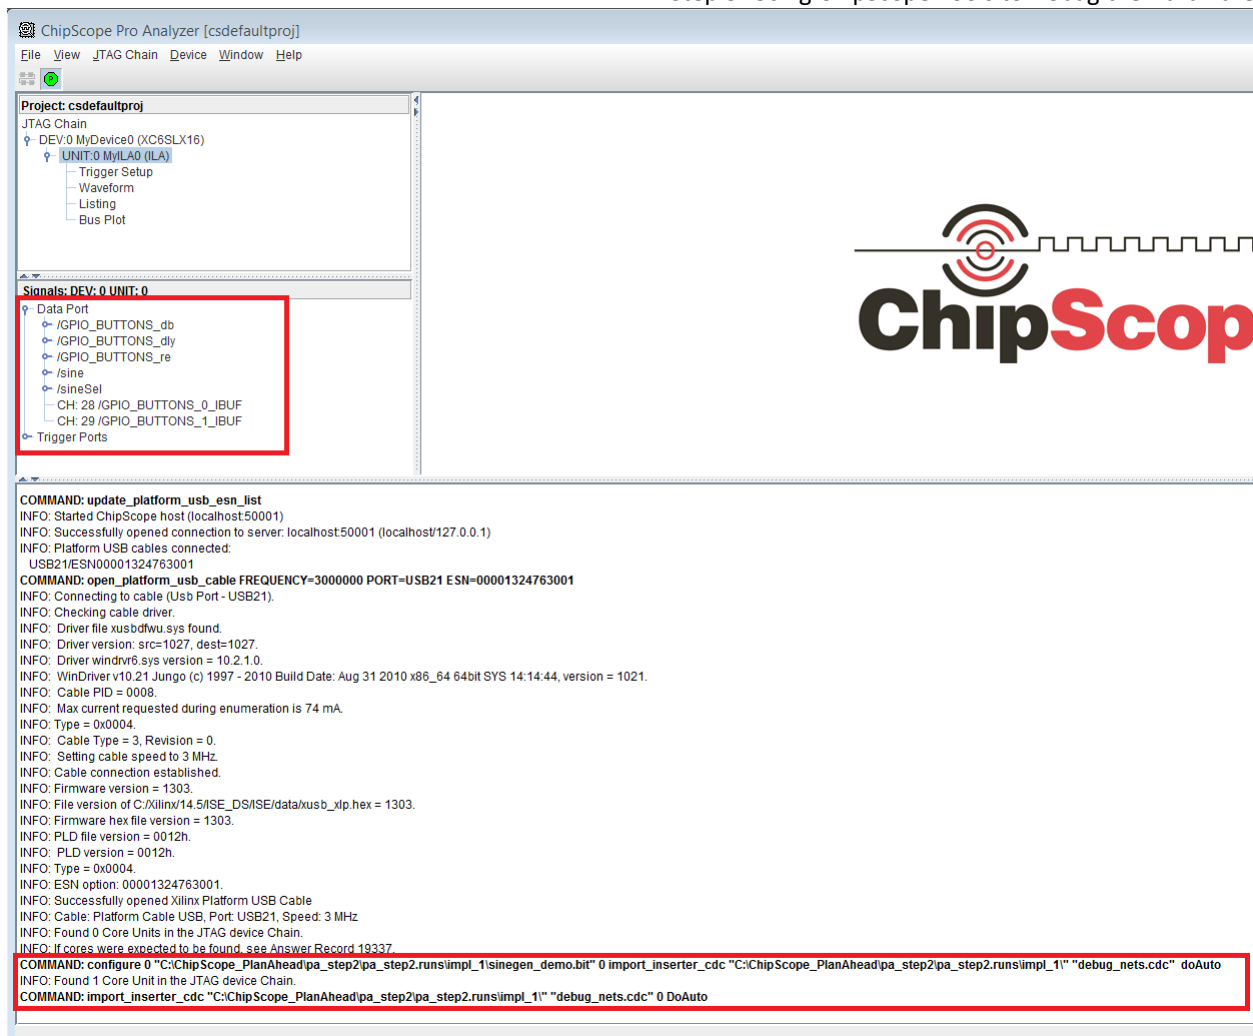

Figure 8: Device Configuration and ILA Core Information
- b. You can now verify the device configuration and ILA core in the ChipScope Pro Analyzer main window, as shown in Figure 8.